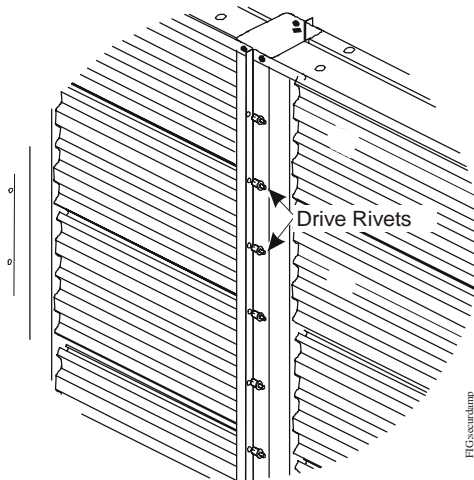

Figure 5: Securing Dampers Together
- Slide the panel without the couplers toward the panel with the couplers. The blade pins should line up with the couplers as shown in Figure 5.